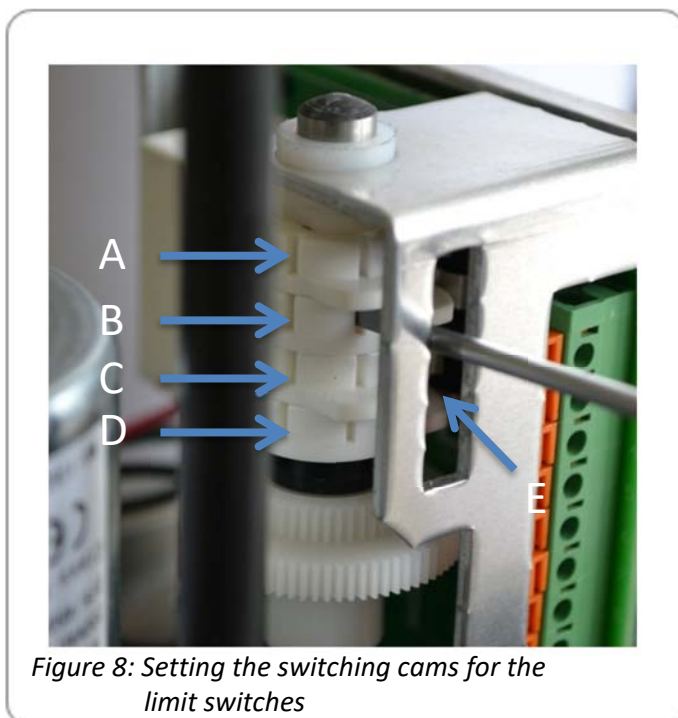

Figure 8: Setting the switching cams for the limit switches
- Turn the cam of the CLOSE limit switch (Figure 8; Pos. D) with a suitable screw driver (4 mm blade width) clockwise until you hear the micro switch click.
- Turn the cam of the OPEN limit switch (Figure 8; Pos. C) with a suitable screw driver (4 mm blade width) counter-clockwise until the micro switch is heard to click.
Use the bridge (Figure 8; Pos. E) as support for the screw driver when adjusting the cams.
- Turn the cam of the the CLOSE limit switch (Figure 8; Pos. B) with a suitable screw driver (4 mm blade width) clockwise until the micro switch is heard to click.
- Turn the cam of the OPEN limit switch (Figure 8; Pos. A) with a suitable screw driver (4 mm blade width) counter-clockwise until the micro switch is heard to click.